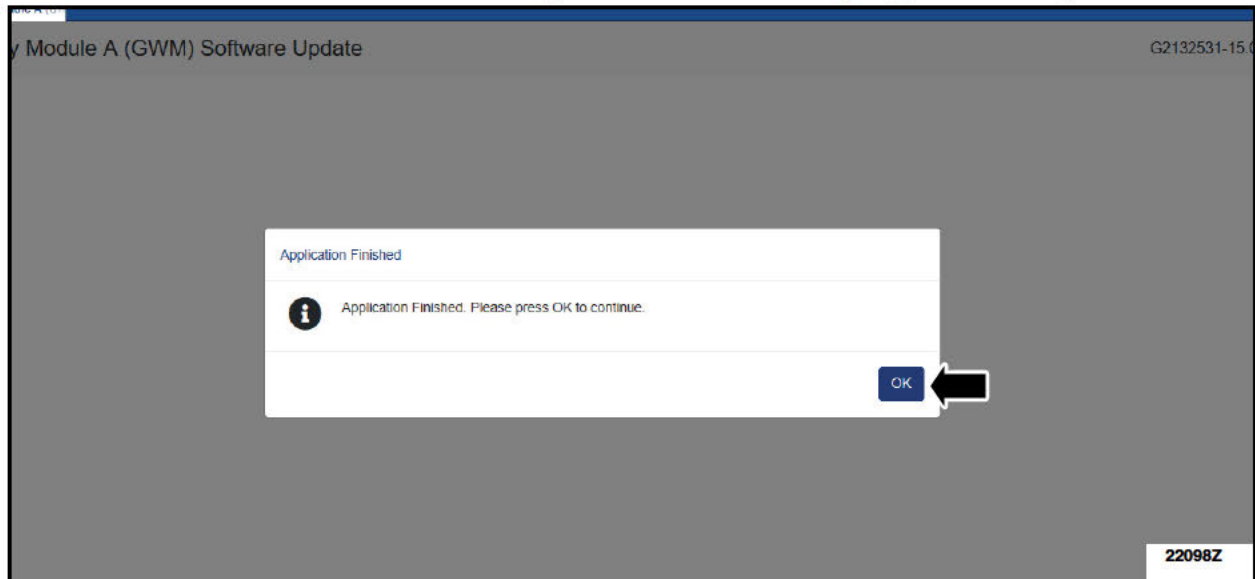

FIGURE 25
27. Click OK on the FDRS screen when the application finished message appears. See Figure 25.